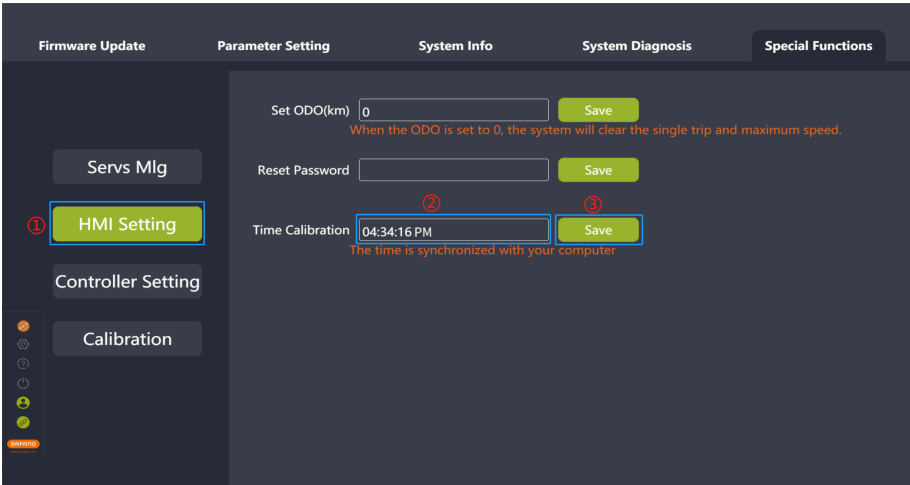

Fig 8-6 Time calibration
3. Click "Save", and the HMI time will be calibrated successfully (Figure 8-6).